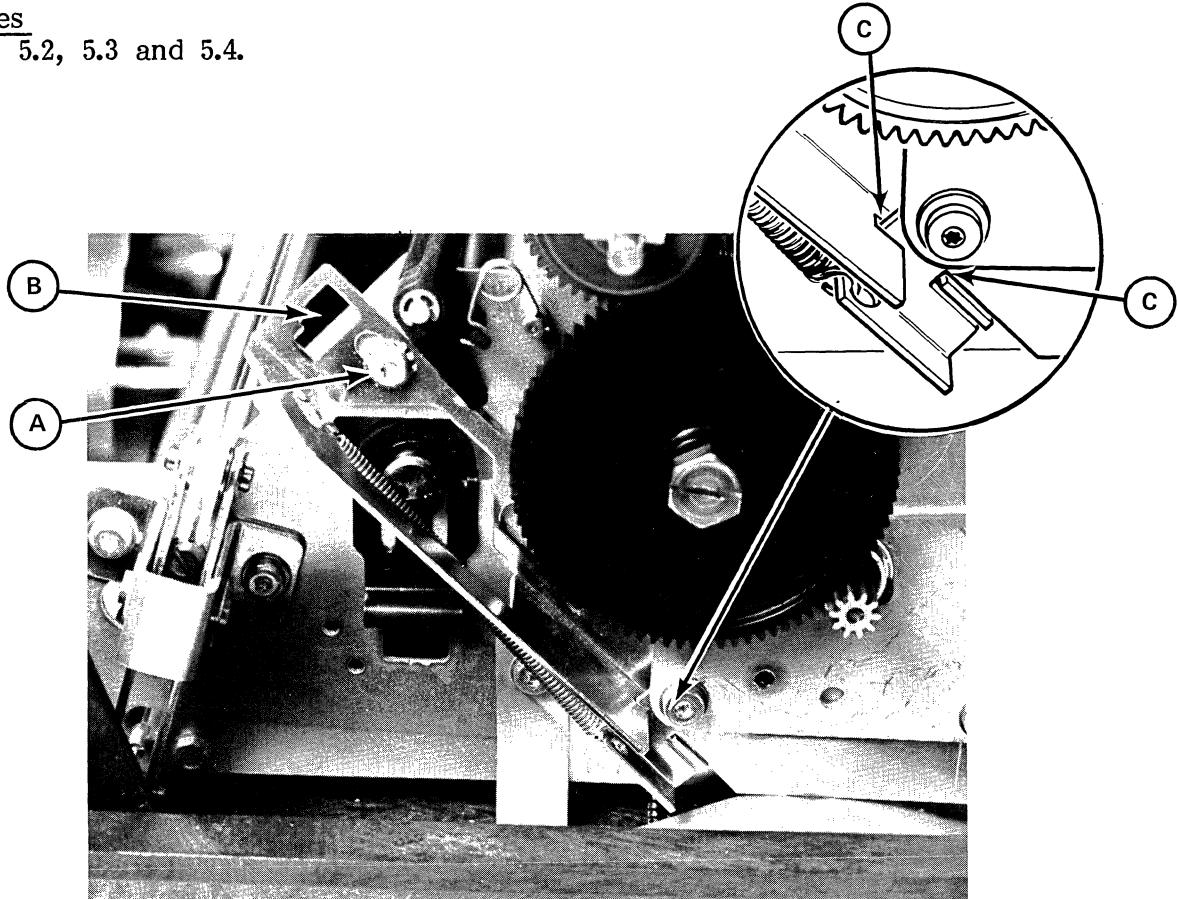

Figure 5-9. PAPER FEED ANTI-BACKLASH MECHANISM ADJUSTMENT
The paper feed anti-backlash mechanism (Fig. 5-9) is a standard feature on later units. This mechanism eliminates all backlash in the paper feed drive train to give precise control of paper registration.
Refer to Figure 5-9.
- 2) Loosen the tensioner bracket lockscrew (A).
- 3) Insert a screwdriver blade into the adjustment slot (B), and adjust for equal clearance at points (C) shown in Figure 5-9.